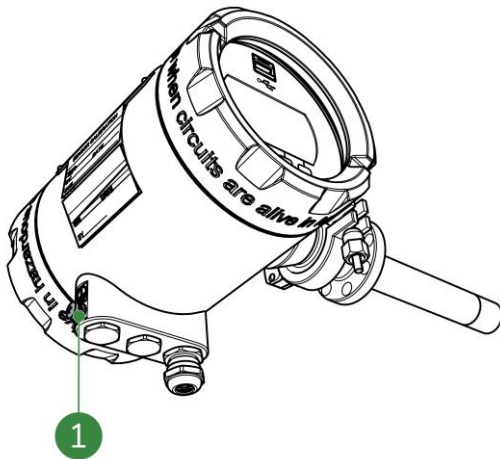

Figure 8-1: SDM earth connection
1. Check if the earth connection (Figure 8-1, pos. 1) is: